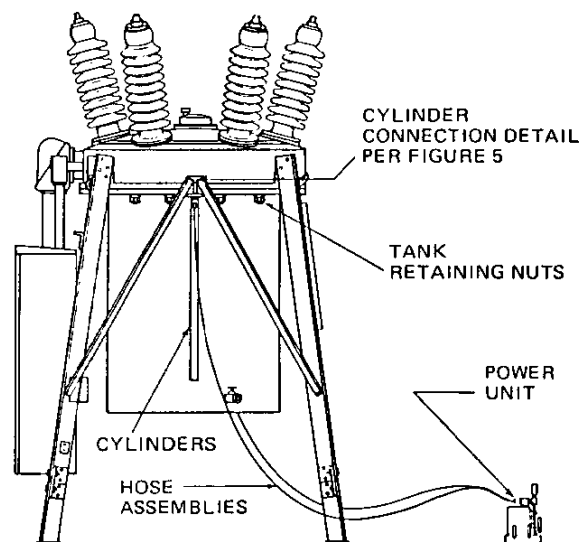

Figure 4
7. CF-56A Breakers (Figures 4 and 5):